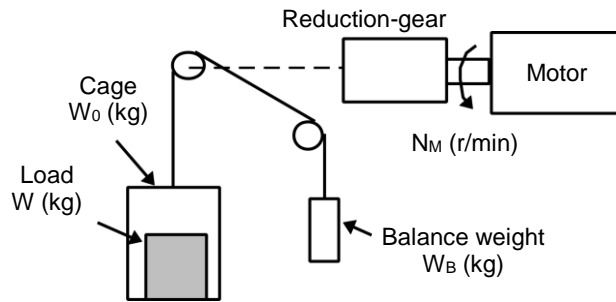

Figure 9.7 Vertical Lift Load
A simplified mechanical configuration is assumed as shown in Figure 9.7. If the mass of the cage is W_0 (kg), the load is W (kg), and the balance weight is W_B (kg), then the forces F (N) required for lifting the load up and down are expressed as follows:
The moment of inertia J ($\text{kg} \cdot \text{m}^2$) of the loads connected with a rope as shown in Figures 9.7 and 9.8 is calculated with the following equation using the mass of all moving objects, although the motion directions of those loads are different.